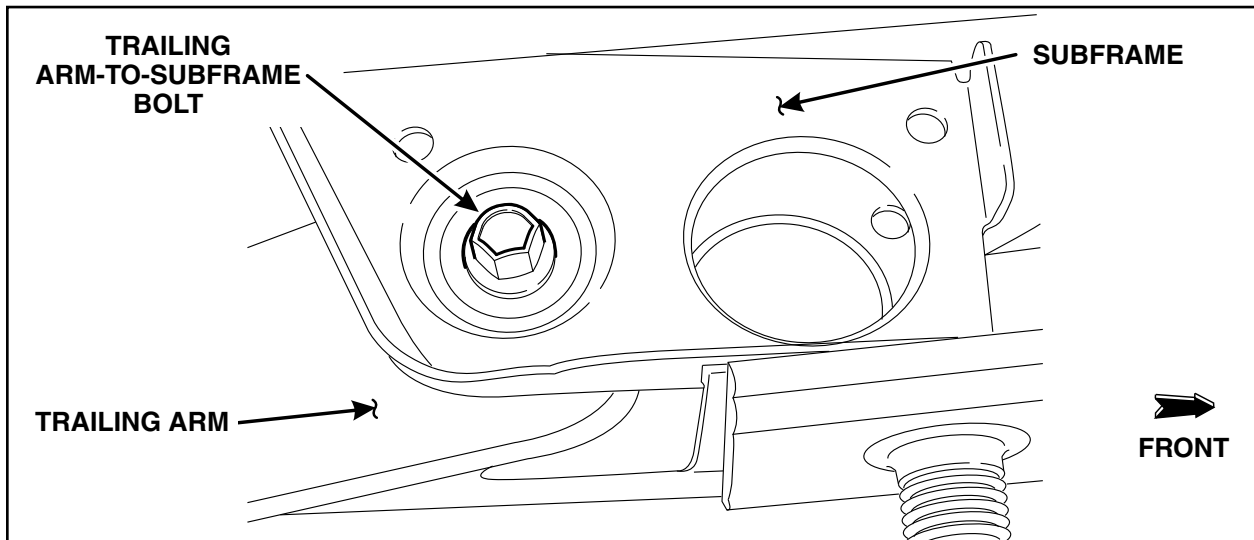

FIGURE 8
9. Remove the trailing arm-to-subframe bolts. *See Figure 8.*
13. Using a High Lift Transmission Jack 014-00942 or equivalent, raise the rear axle assembly in position and install the trailing arm-to-subframe bolts. *See Figure 8.*